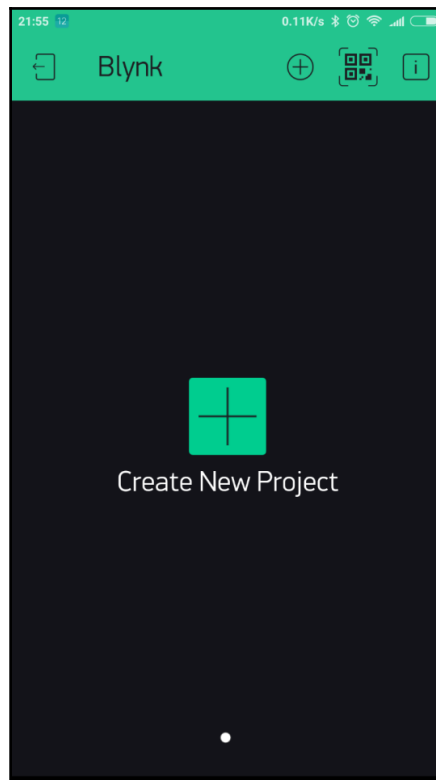

Figure 2.21: Creating a new project with Blynk
3. Create a new project by selecting **Create New Project** (Figure 2.21):